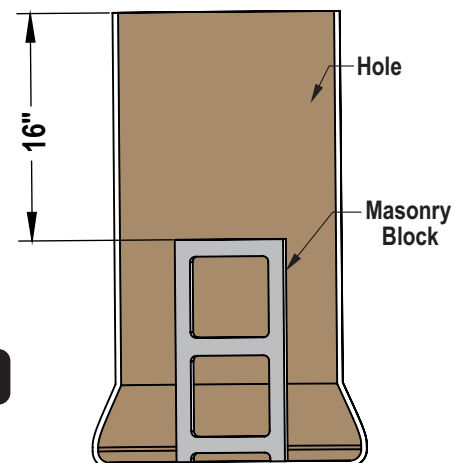

Figure 2
3. Place and center a masonry block in the bottom of the hole so there is exactly 16" from the playing surface to the top of the masonry block. See **Figure 2**.